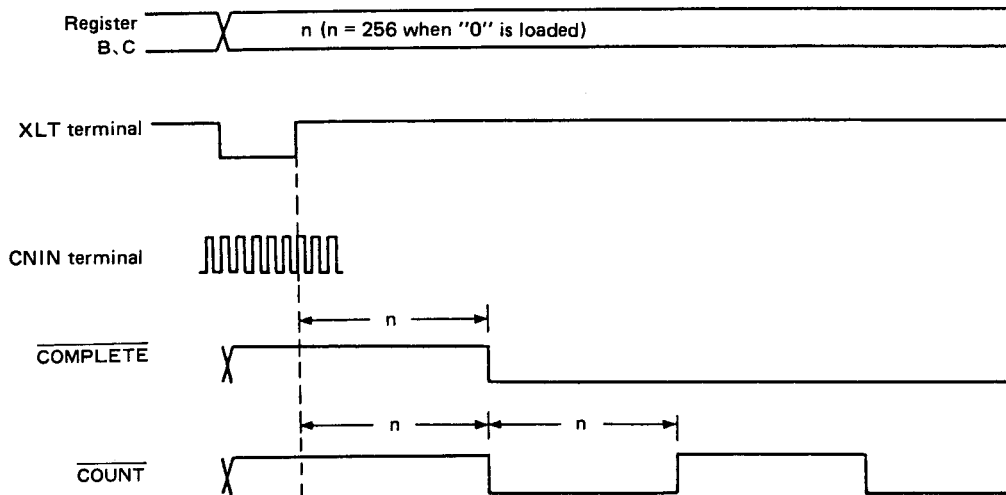

Fig. 9-4 Tracking counter timing chart
The tracking counter timing chart is shown in Fig. 9-4.
1. $\overline{COMPLETE}$: Address is "B"; Shown in Fig. 9-4.
2. \overline{COUNT} : Address is "C"; Shown in Fig. 9-4.